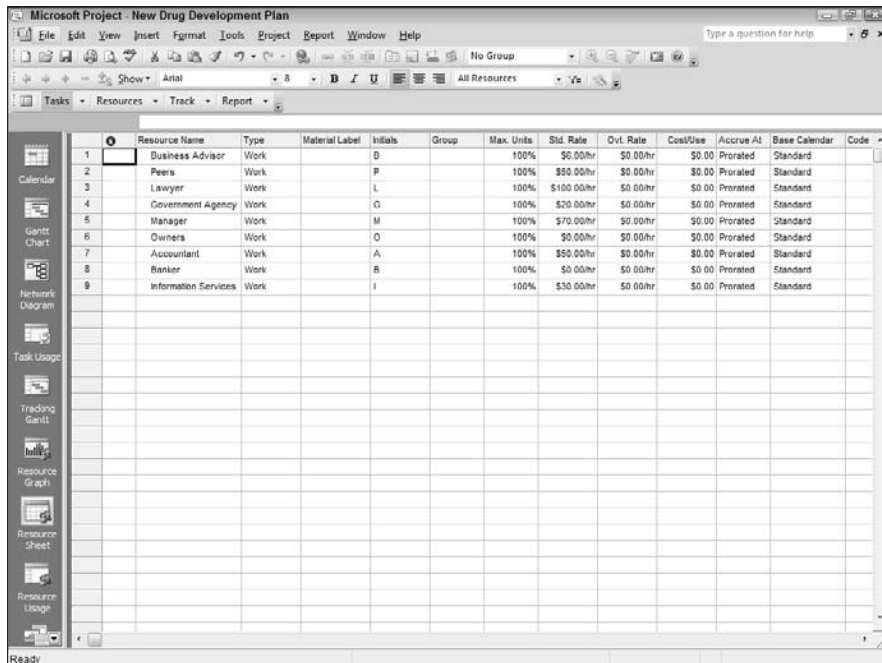

Figure 3-11:
- ◆ **Resource Sheet** (see Figure 3-11) is a great view for entering resource information, including the type of resource, maximum units of work, standard and overtime rates, cost, and calendar.